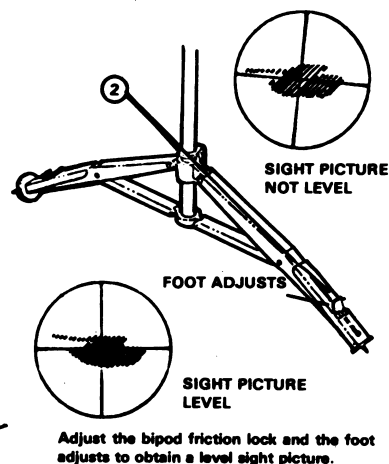

Figure 1a
(1) As the gunner, place the launcher on your right shoulder as close to the curve of the neck as possible.
(2) Adjust the bipod legs and feet for height and proper leveling (figure 1a).
(3) Point the toes of both feet into the ground with the heels elevated and buttocks resting on the heels.
(4) Place both knees on the ground and keep them spread wide.
(5) Take the slack out of the bipod by pushing forward or pulling backward.
(6) Grasp the left portion of the tracker (optical sight between the shock absorber) with the left hand and the trigger assembly with the right hand. The right thumb is positioned on the safety plunger, three fingers on the trigger lever and the little finger forward of the trigger lever.
(7) Bend forward at the waist until the right eye is pressed firmly against the tracker eyeguard.
(8) Tuck your elbows beneath the tracker and keep them close together.
(9) Apply constant downward and rearward pressure on the tracker.